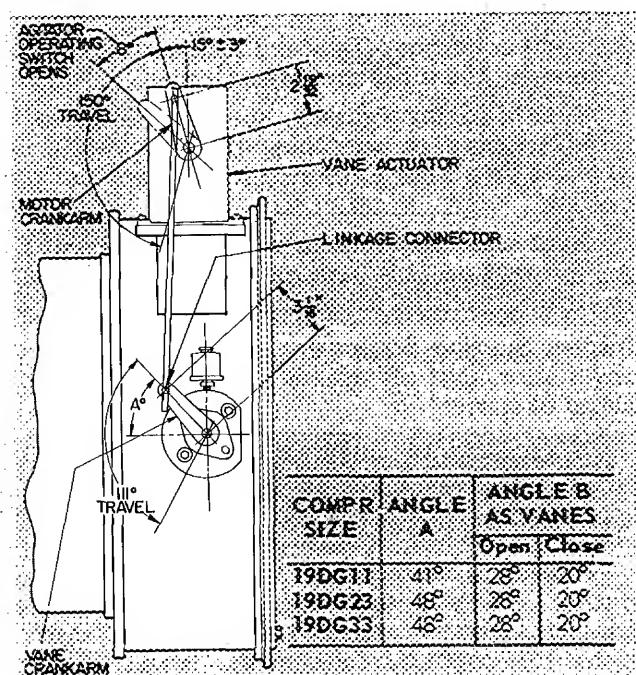
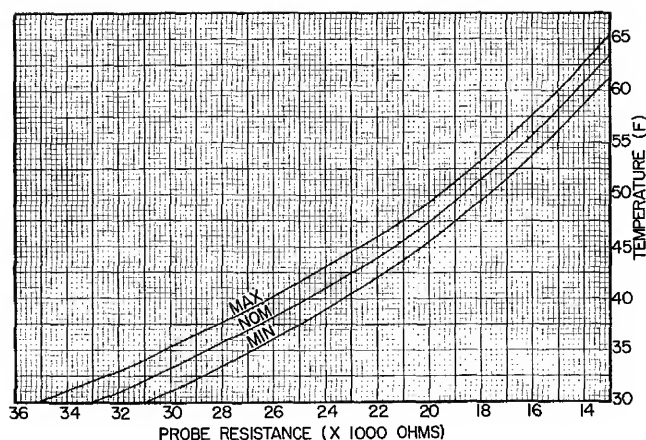

Fig. 5 — Guide Vane Linkage (Closed Position)
Fig. 6 — Chilled Water Probe Resistance versus Temperature (Electronic Control Only)
When the machine is off, the guide vanes are closed and the vane actuator is stopped by a limit switch at the Fig. 5 position.
Vanes-closed switch open.	Check continuity between ①1 and ①2; if none, check guide vane adjustment linkage per Fig. 5. If actuator is not in fully closed position, check relay K2 by replacing it with K3.
Chilled water probe defective.	Check probe resistance per Fig. 6. Replace.
Guide vanes fail to open fully.	Ensure that capacity control switch is in "Auto." position. If vanes will not open with switch at "Inc," check for excessive cooling load (see above). Check relays K2 and K3. Check guide vane linkage. (See Fig. 5.) Check cycling timer. If all else fails, replace capacity control module.
Guide vanes fail to close.	Ensure that capacity control switch is in "Auto." position. Check chilled water probe resistance per Fig. 6. Check guide vane linkage. (See Fig. 5.) If all else fails, and vanes close in "Dec" but not in "Auto.", replace capacity control module.
Loose vane linkage.	Adjust guide vane linkage. (See Fig. 5.)